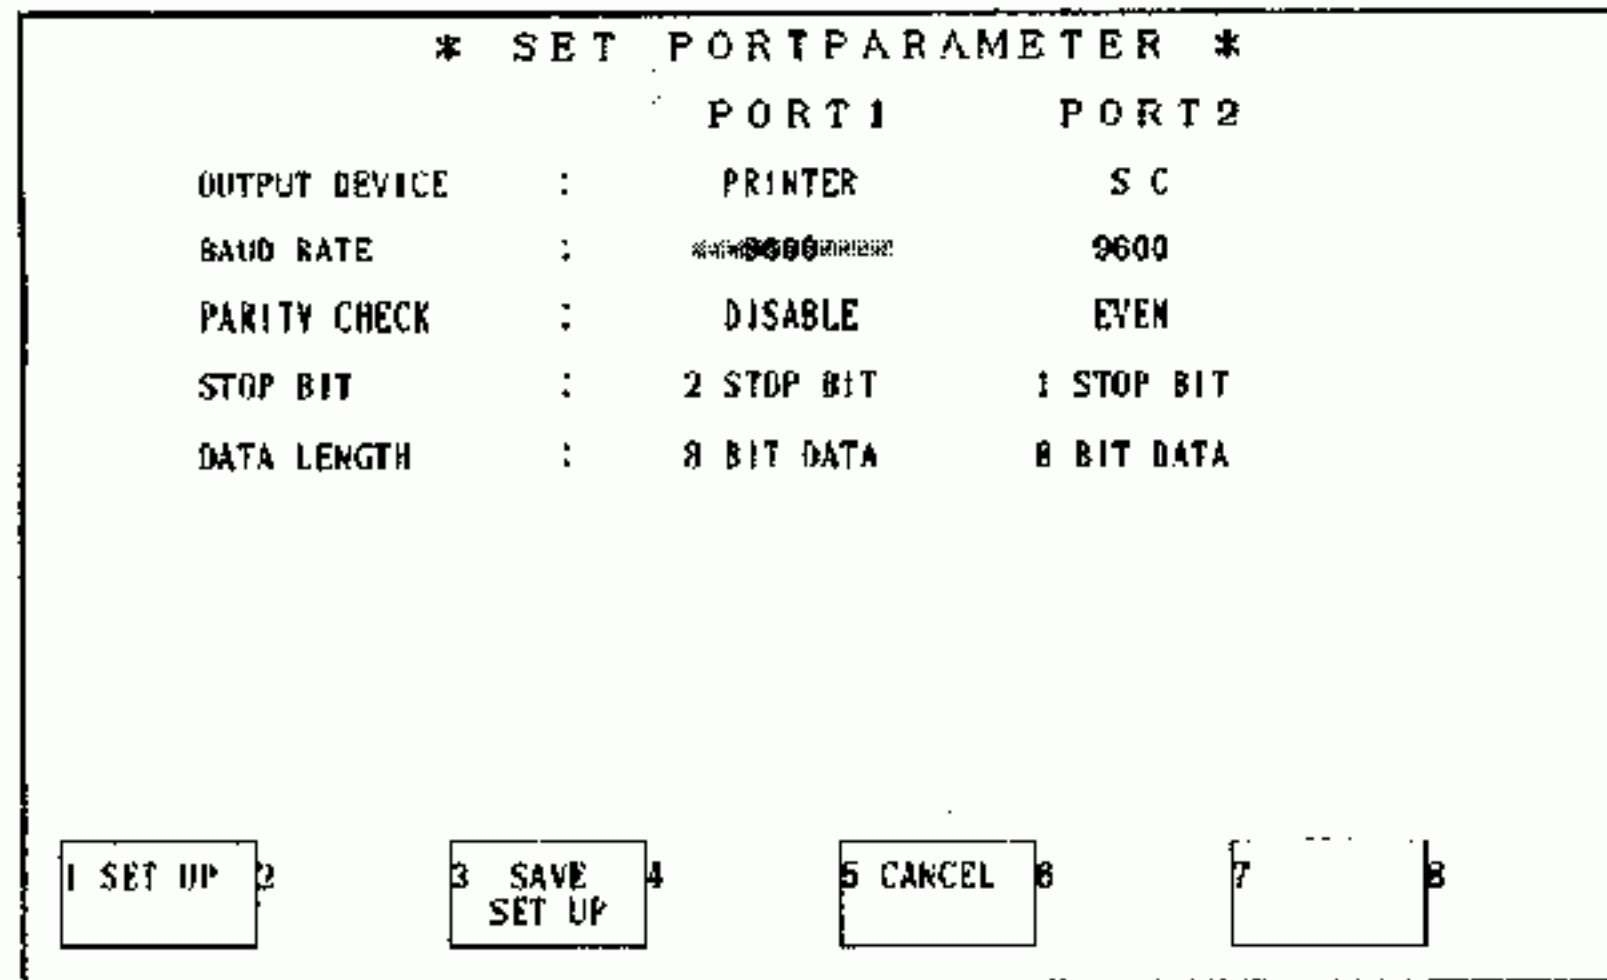
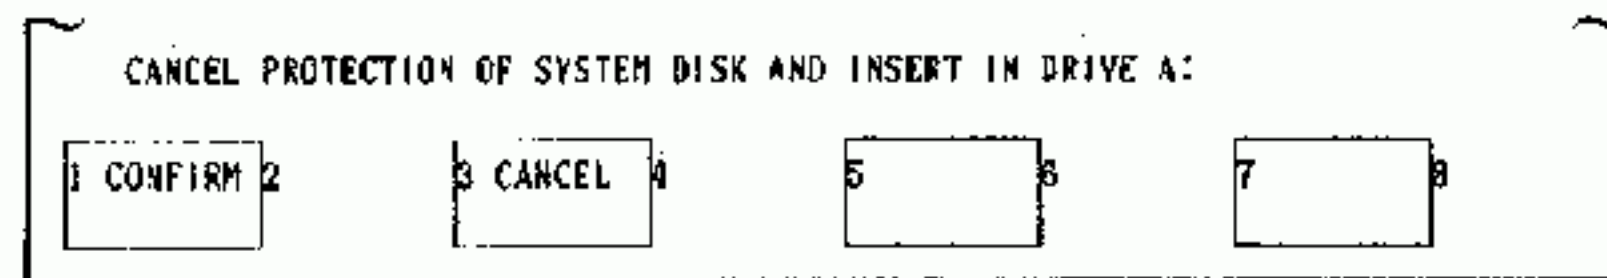

Fig. 5.2.139
Fig. 5.2.140
2. P150 has a communication parameter file in the system disk, the default values (initial values) are shown in Fig. 5.2.137. By copying all modifications of these initial values on the system disk, altering the communication parameters is not required at system starting. Depress "SAVE SET UP" key instead of "SET UP" key (Fig. 5.2.139). After the display shown in Fig 5.2.140 appears, insert the system disk, with writable state, in drive A, and depress "CONFIRM" key.